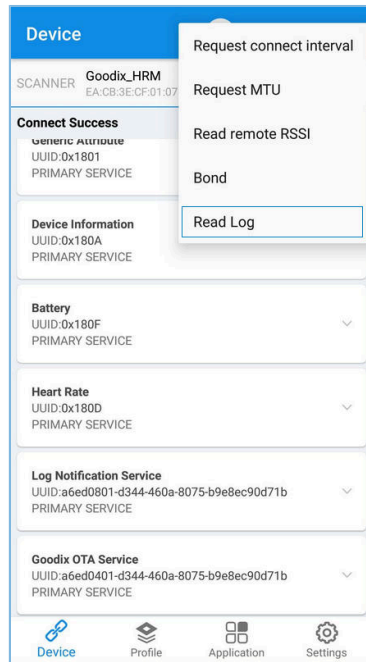

Figure 3-4 To read device logs
2. Tap  in the upper-right corner, and choose **Read Log**, as shown in Figure 3-4.